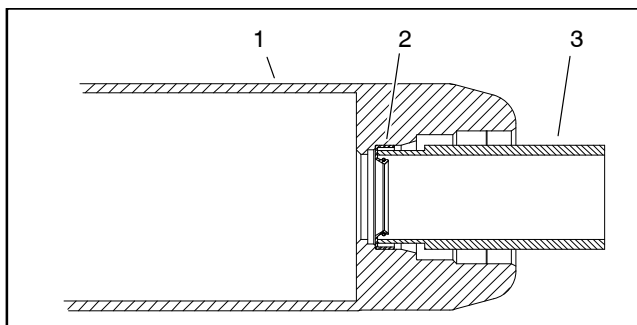

Figure 42
1. Install inner seals into roller tube making sure that seal lip (and garter spring) faces end of tube. Use inner seal tool (see Special Tools) and soft face hammer to fully seat seals against roller shoulder (Fig. 42). Apply a small amount of grease around the lip of both inner seals after installation.